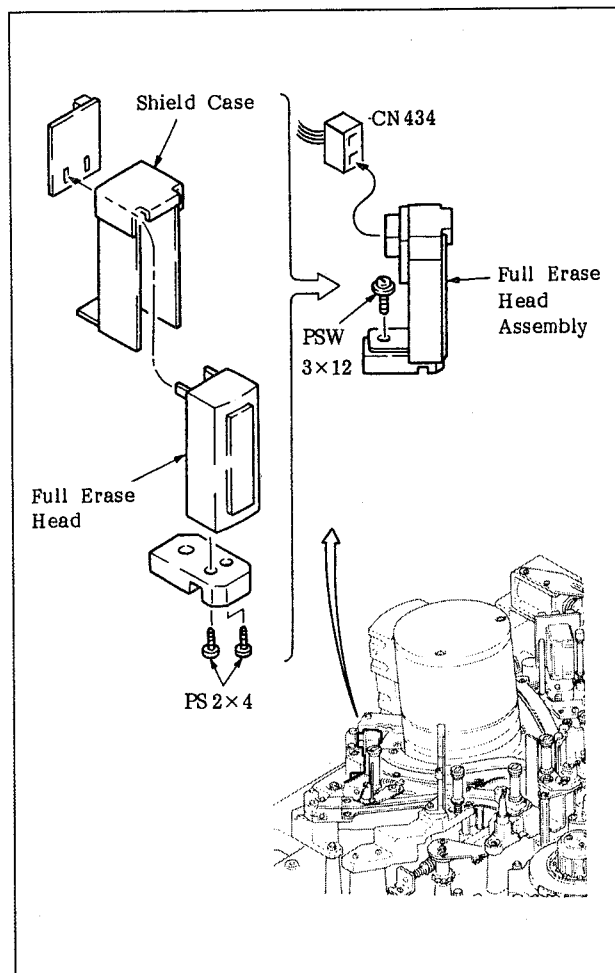

Fig. 6-55 Replacement of the Full Erase Head
3. Remove the erase head from the full erase head assembly by referring to Figure 6-55.